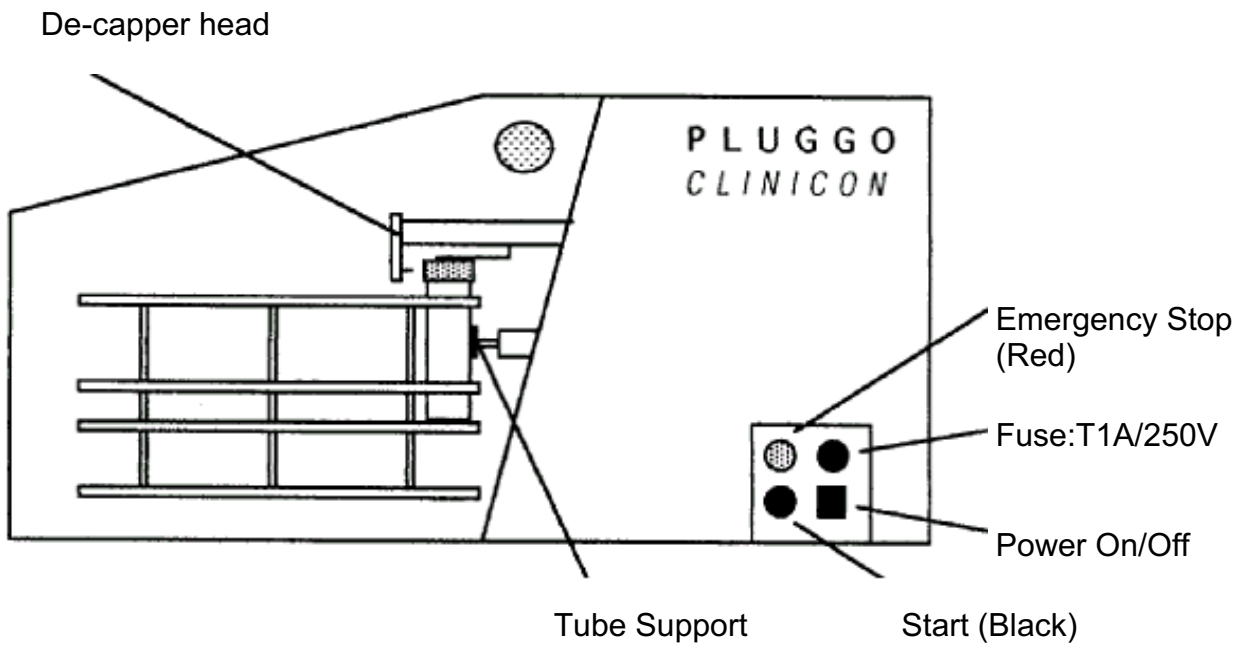

Figure 2: Right side view with control panel
7. Plug the power cord into a supply connector with protective ground. Press the rectangular power switch on the right side of the unit. Check that the light on the power switch is now lit. See figure 2.